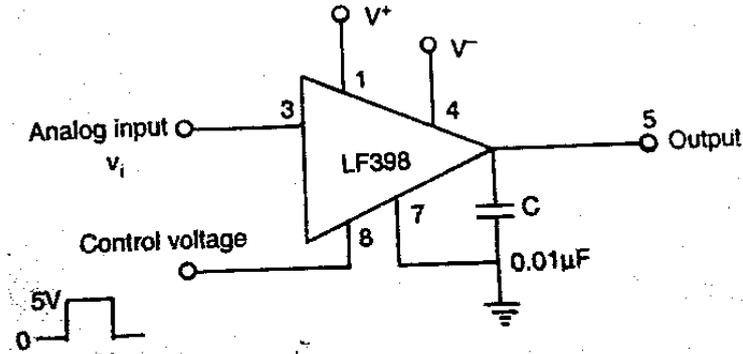

Fig. 3.54 Typical Connection Diagram
- A typical connection diagram of the LF398 is shown in Fig. 3.54. It may be noted that the storage capacitor C is connected externally.
21. With the circuit of neat diagram explain the operation of R/2R D/A converter. (May-15) (8)